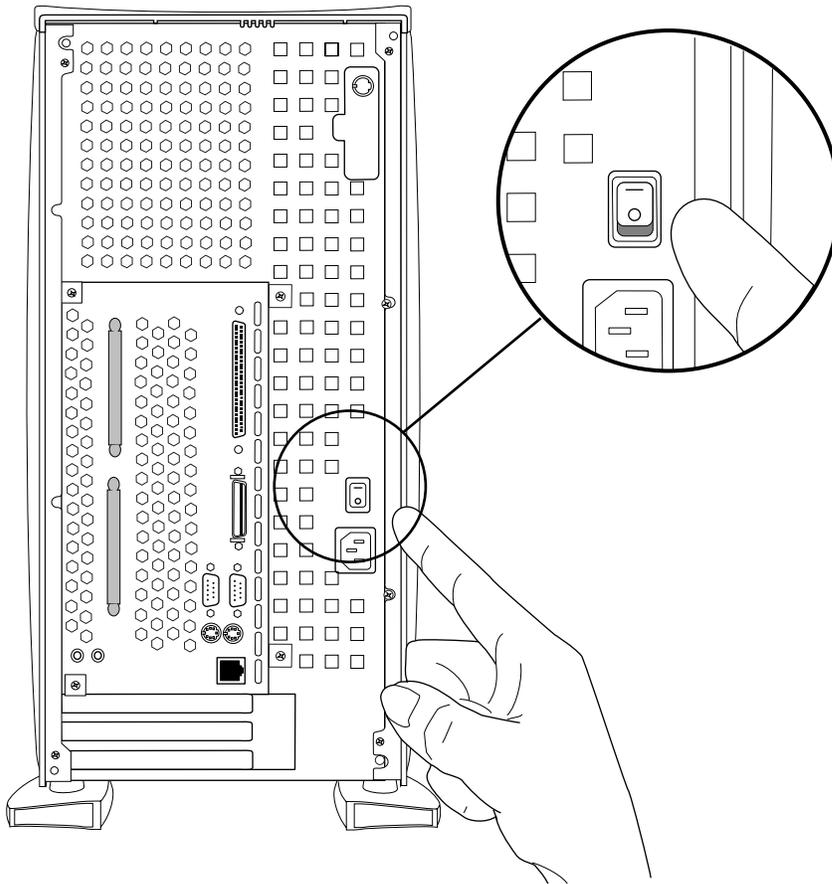

Figure 2-21 Turning On the Master Power Switch
1. At the rear of the system, turn the master power switch on, as shown in Figure 2-21.